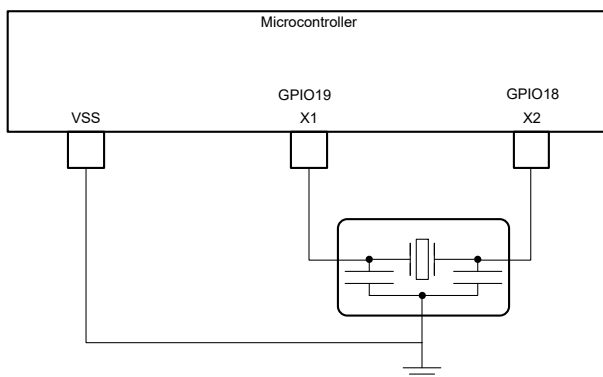

Figure 6-12. External Resonator
- An external resonator. The resonator should be connected across X1 and X2 with its ground connected to VSS as shown in Figure 6-12.